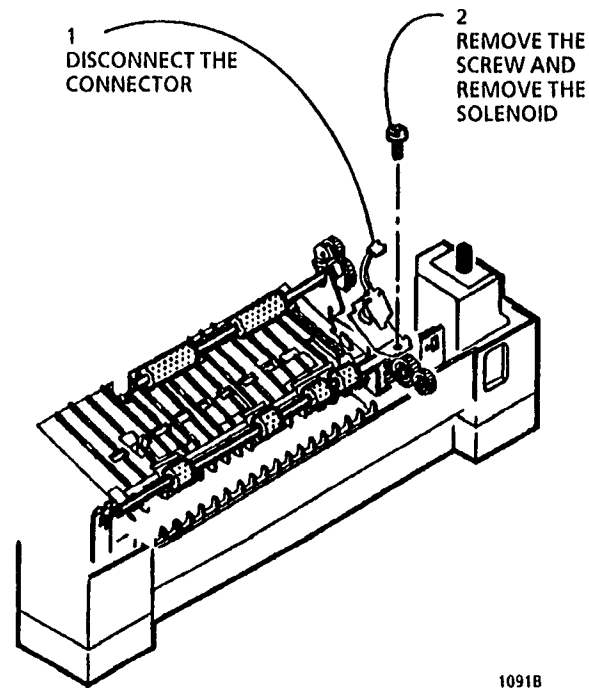

Figure 1. Removing the Paper Feed Solenoid (SOL2)
3. (Figure 1): Remove the Paper Feed Solenoid.